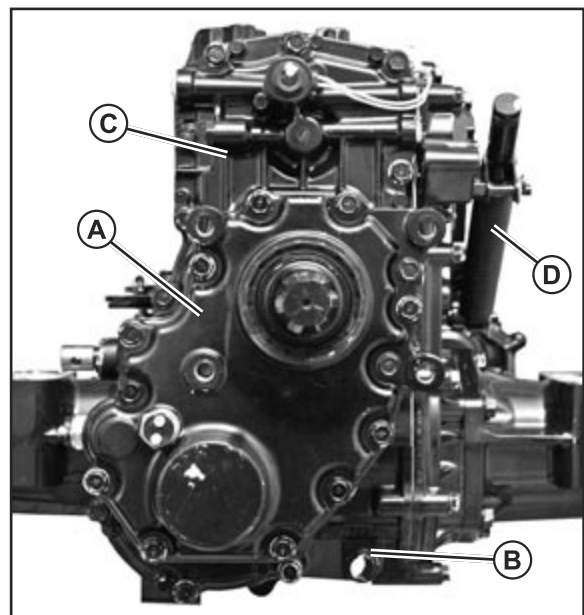

Fig. 14, Transaxle/Rear PTO Cover
1. Remove plug (B) to drain oil from transaxle. (Fig. 14)
2. Remove optional rear PTO (A), if installed. (See "Rear PTO Removal and Installation" on page 12.) (Fig. 14)
3. Remove rear transaxle cover (C). (Fig. 14)